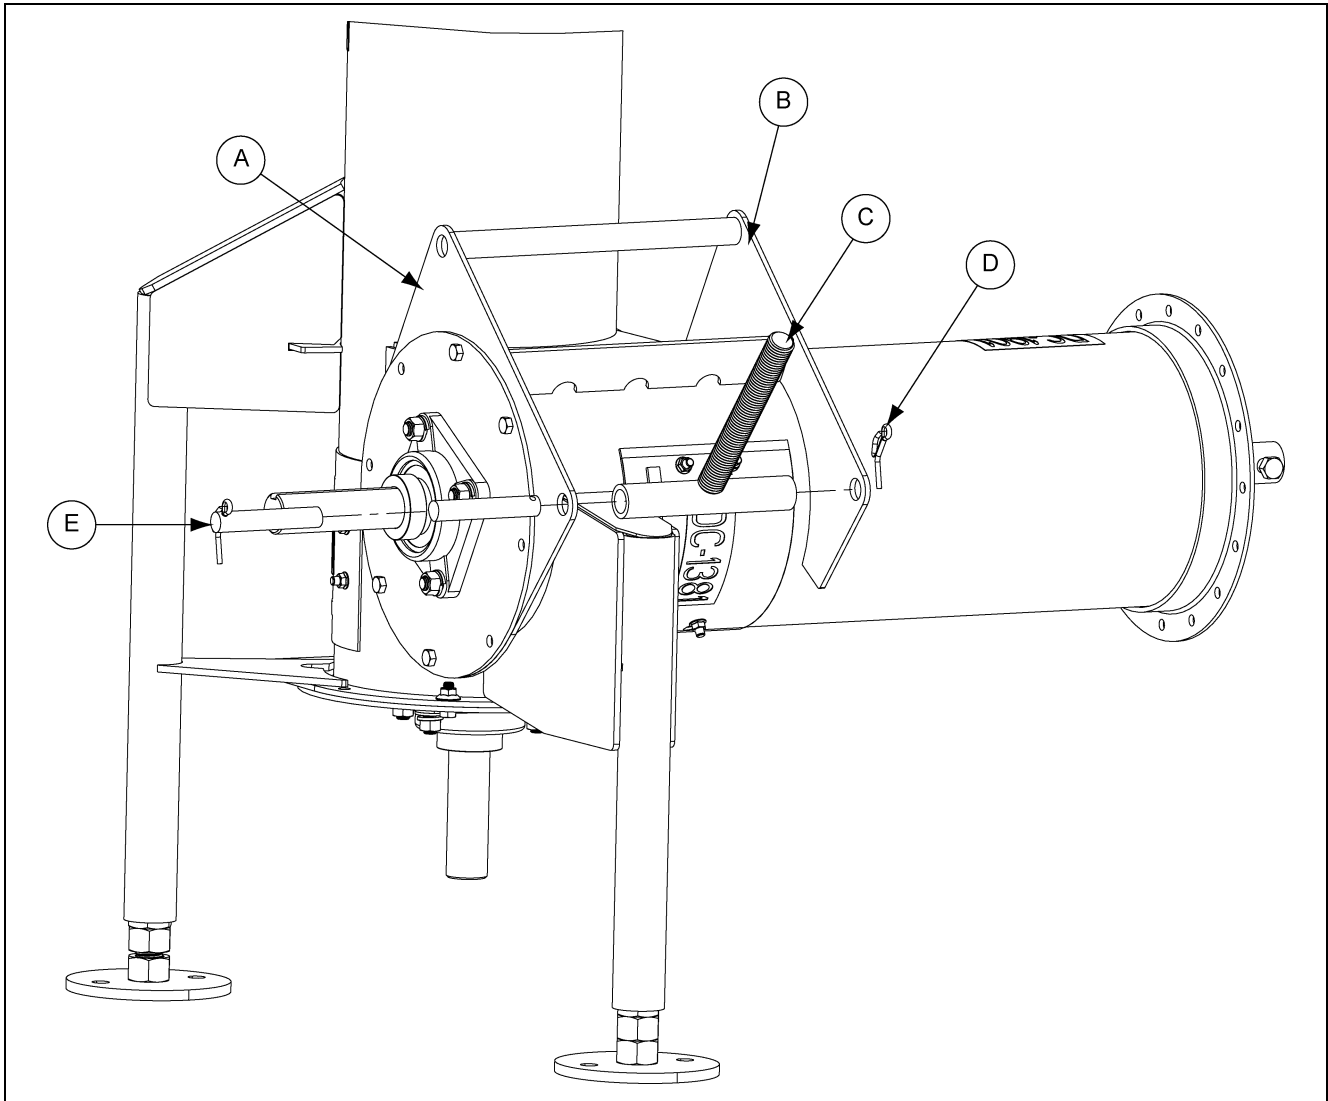
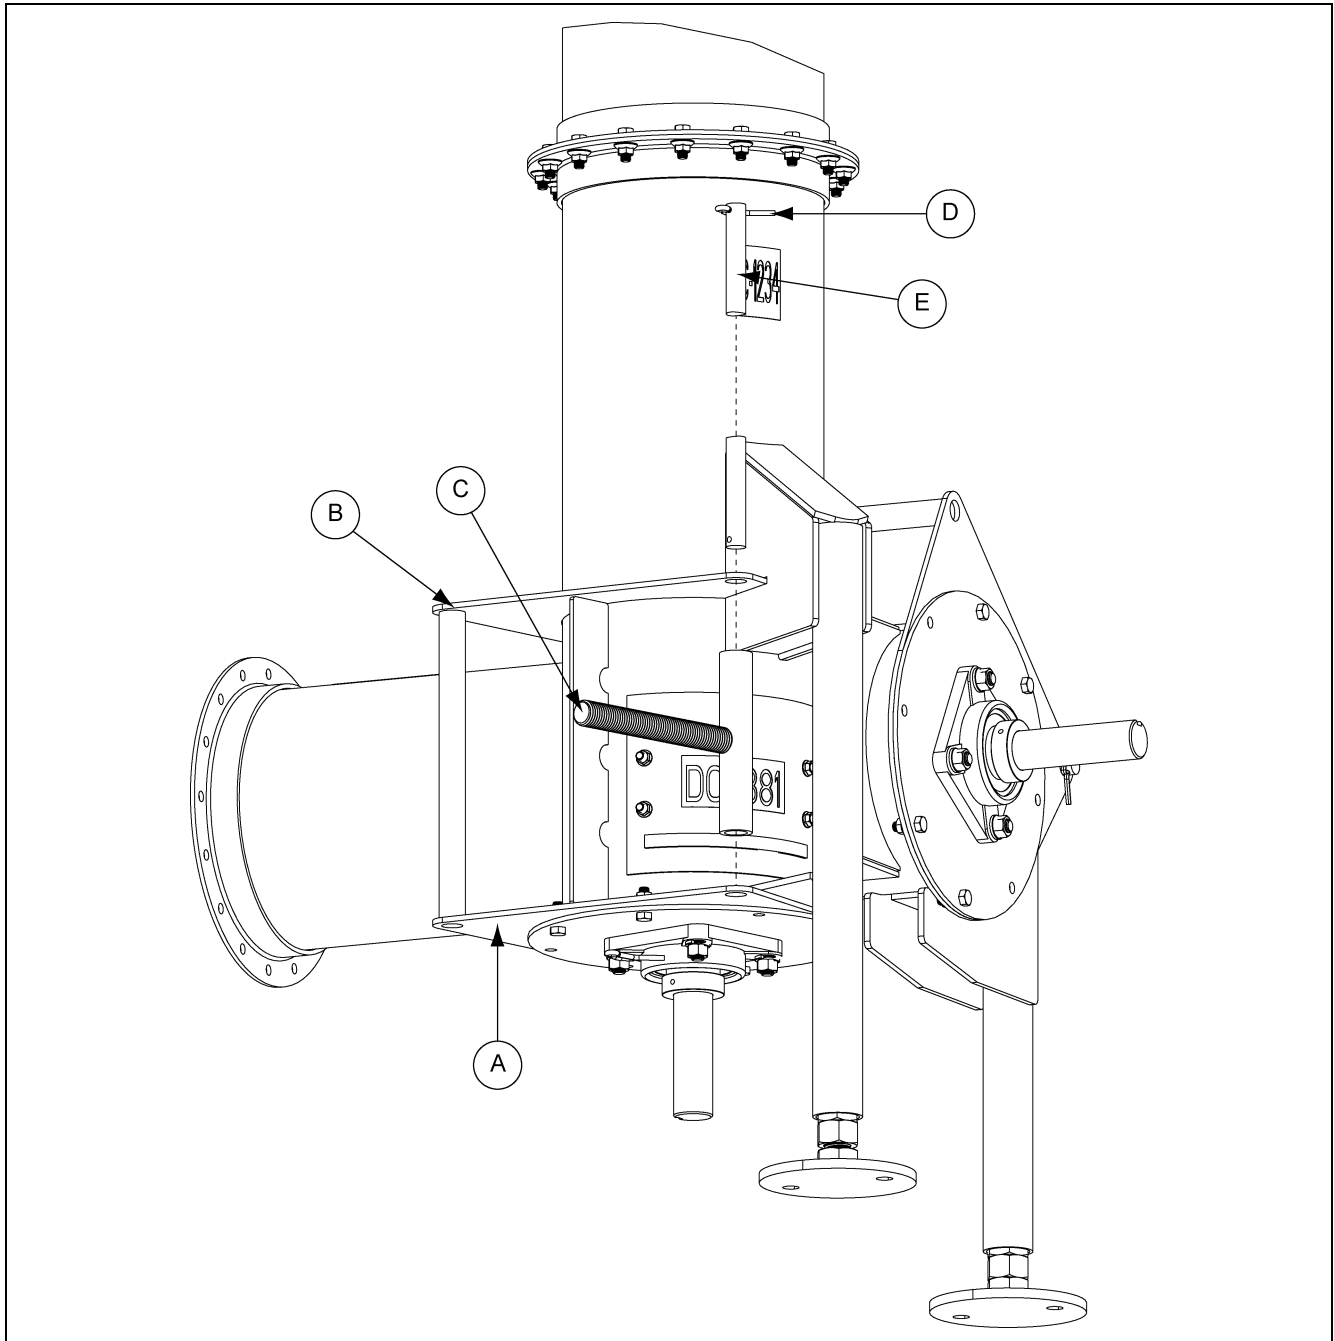

Figure 3E
Figure 3F
- A. Place the *motor mount adjuster* (C) between the back plate (B) and the head plate (A) on the cross-tube.
- B. Insert the *pivot rod* (E) through the back and head plates (B and A) and the *motor mount adjuster* (C). Secure the *pivot rod* (E) in place with two (2) 3/16" x 2" cotter pins (D). (See Figure 3E below and Figure 3F on Page 15.)